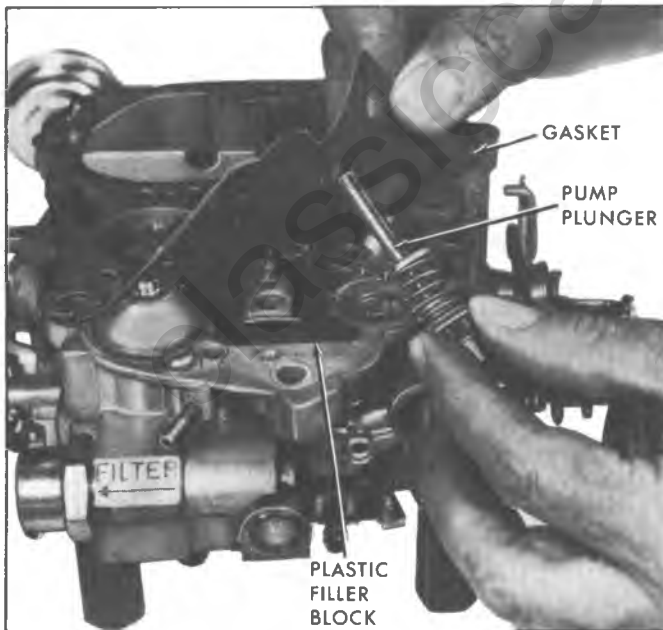

Fig. 8MQ—Removing Air Horn Gasket and Pump Plunger
1. Remove air horn gasket by lifting out of dowel locating pins and lifting tab of gasket from beneath the power piston hanger, being careful not to distort springs holding the main metering rods (Fig. 8MQ).